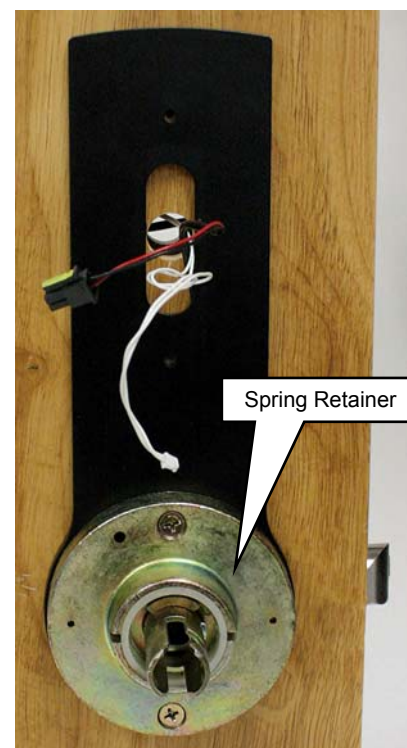

FIG. 11E: INSTALL THE SPRING RETAINER AND SECURE WITH TWO LONG SCREWS
- 11E.** Install the **Spring Retainer** and secure with two long screws (see Fig. 11E).